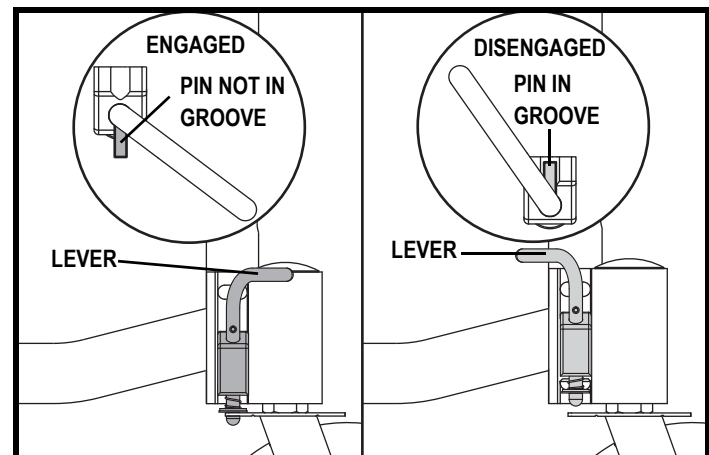

Figure 11. Caster Pin Lock Operation
1. Rotate the lever so that the securement pin is not in the groove to engage the caster pin lock. See figure 11.
2. Rotate the lever so that the securement pin is securely in the groove to disengage the caster pin lock. See figure 11.